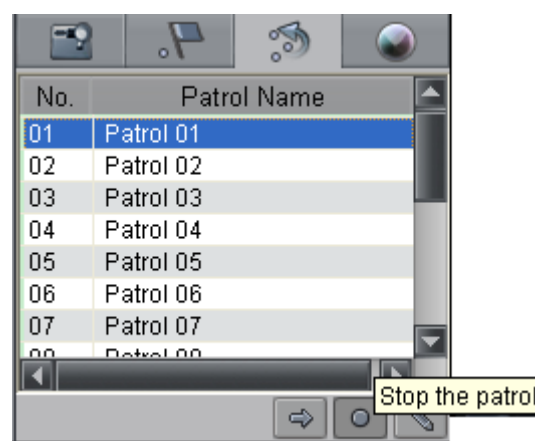

Figure 4.2.26 Stop Patrol
**Stop Patrol:** Select a predefined patrol from the list and click *Stop the Patrol* button to stop a patrol. Refer to Figure 4.2.26.